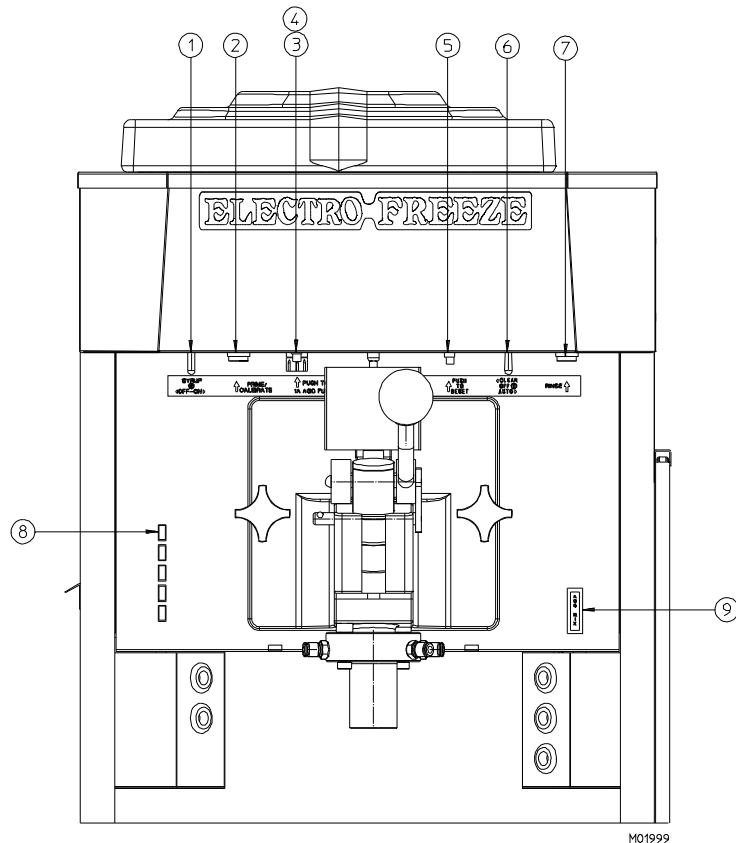

Figure 8-3
1. Place the syrup pump switch (1) to the "ON" position. See figure 8-3
2. To dispense milk shake select desired flavor (8) on the front panel.
7. To clean mixing chamber before a different flavor is selected, place an empty cup under the mixing chamber and push the rinse button (7) to clean mixing chamber before next serving.